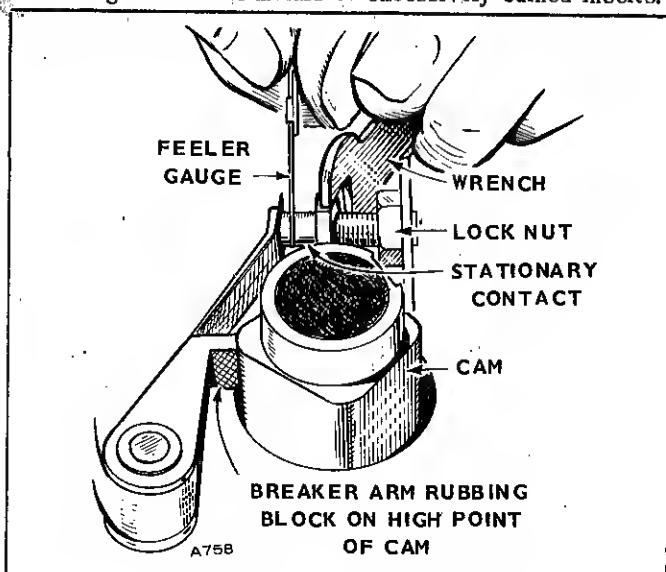

FIGURE 41. POINT ADJUSTMENT
- Rotate the drive shaft to obtain maximum breaker gap and set the gap for .020" (Fig. 41).